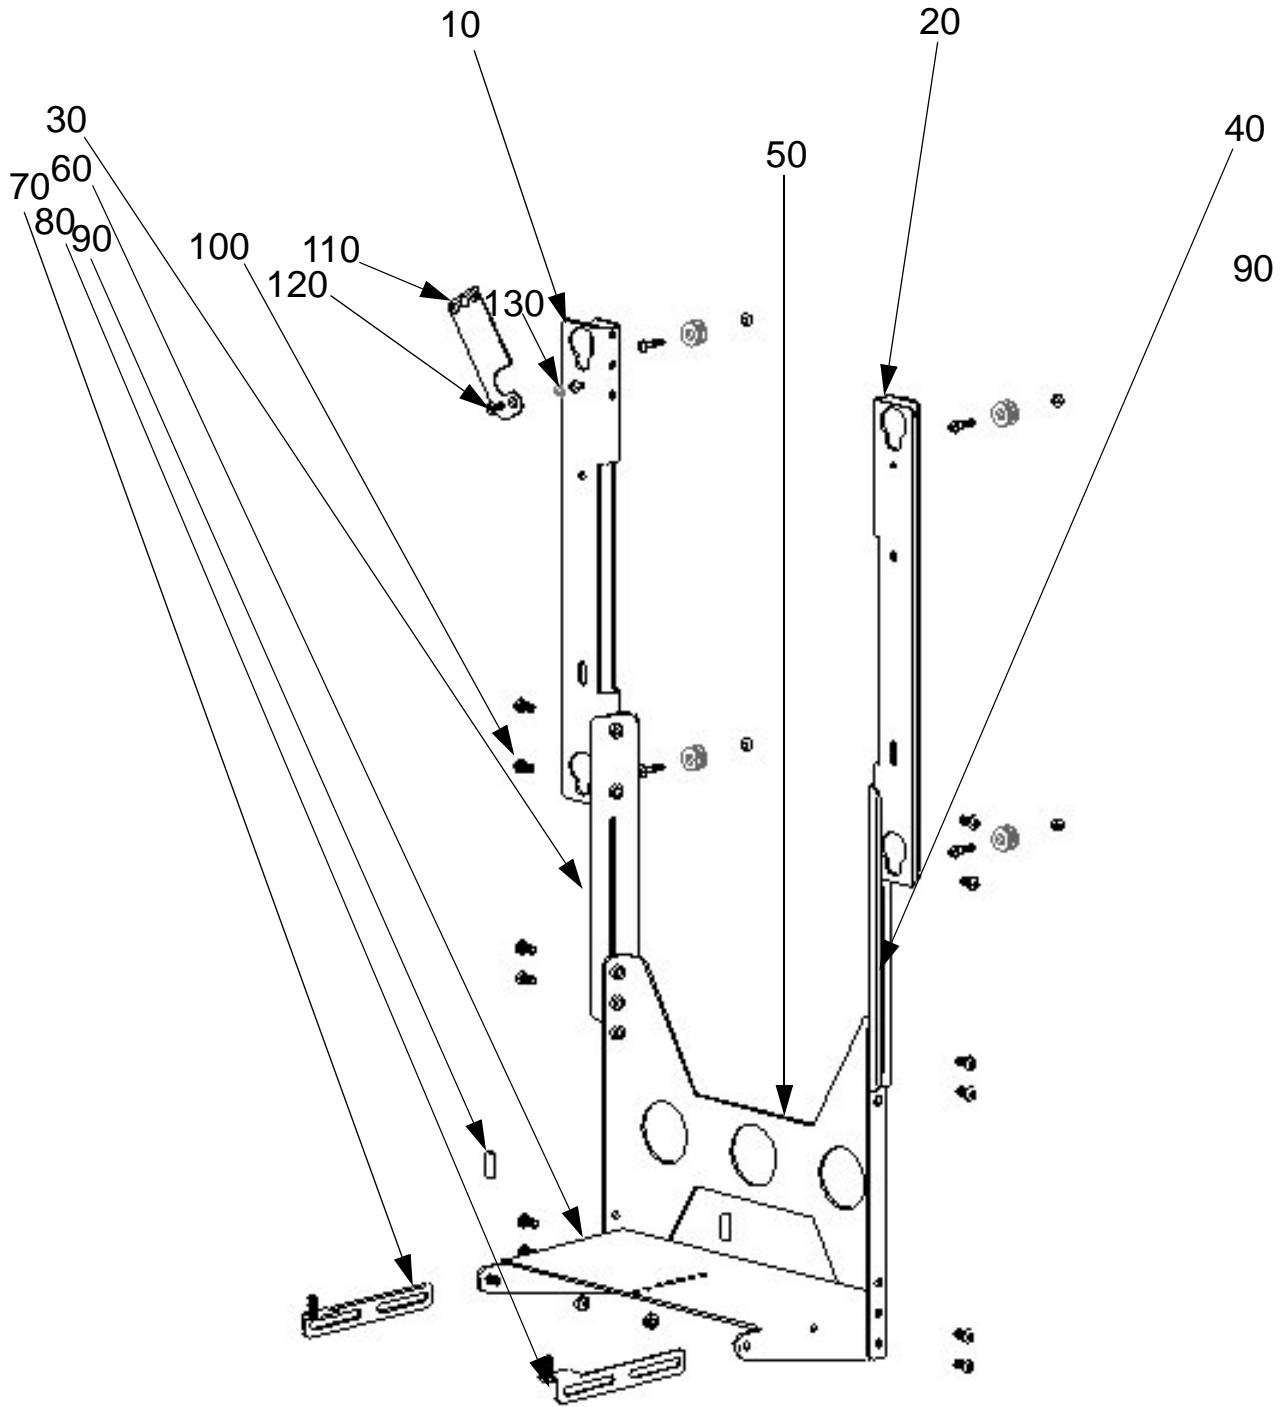
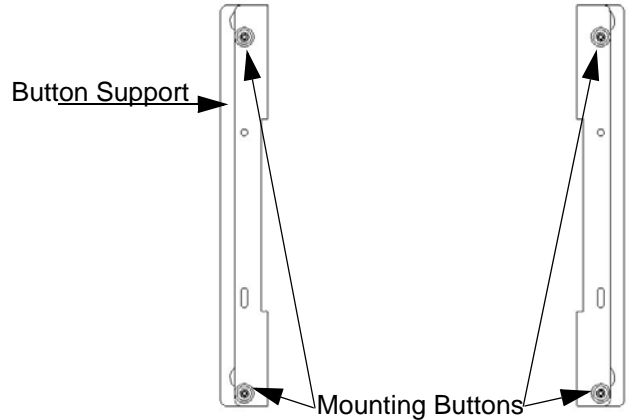
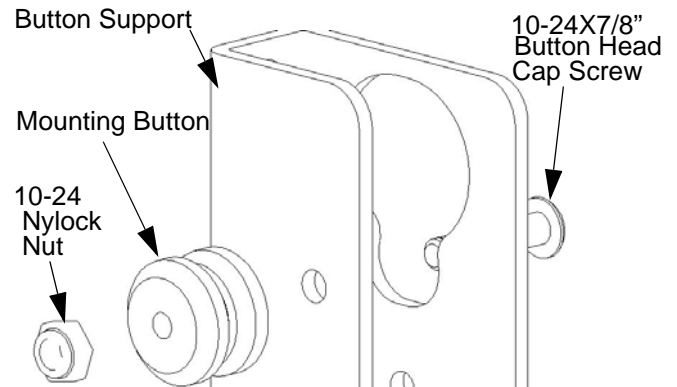

Figure 1. Plasma Center Channel Speaker Shelf
Figure 2. Mounting Button Location
Figure 3. Mounting Button Attachment
2. Carefully inspect the Plasma Center Channel Speaker Shelf (PAC-302) components for damage (See Figure 1).
NOTE: Numbers in () refer to parts shown in Figure 1.
1. Attach two mounting buttons (150) to left speaker mount button support (10) and right speaker mount button support (20) using four 10-24X7/8" button head cap screws (170) and four Nylock nuts (170) (see Figure 1, Figure 2, and Figure 3).